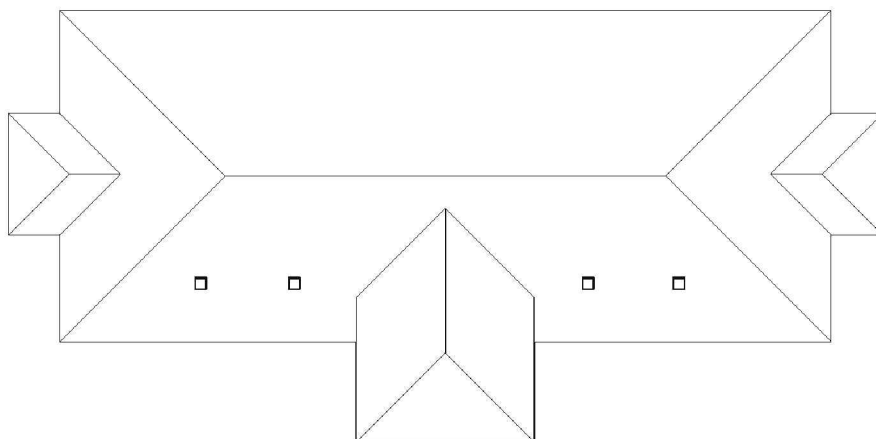

Figure 13-1.1 Site plan view
- a. Adjust the category visibility so your view matches Figure 13-1.1. Also, set the *Detail Level* to *Fine*. Hide elevation and section tags.
Here you will basically see what appears to be a roof plan view of your project (Figure 13-1.1). This view has the visibility set such that you see the project from above and the various “site” categories turned on so they are automatically visible once they are created. Next you will take a quick look at the *View Range* for this view so you understand how things are set up.